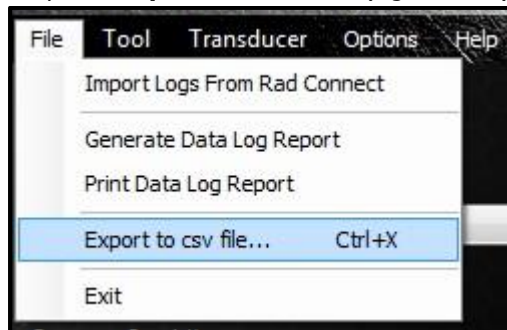

Figure 5.7-1: Export Button
1. In the "File" tab press "**Export to cvs file...**" (Figure 5.7-1).